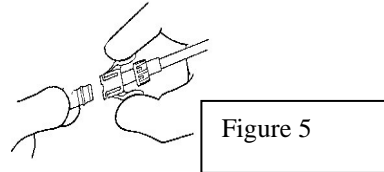

Figure 5
3. With one hand, hold your catheter by the hub and with your other hand squeeze the “wings” of the locking blunt cannula together and insert it into the cap of your catheter (figure 5).